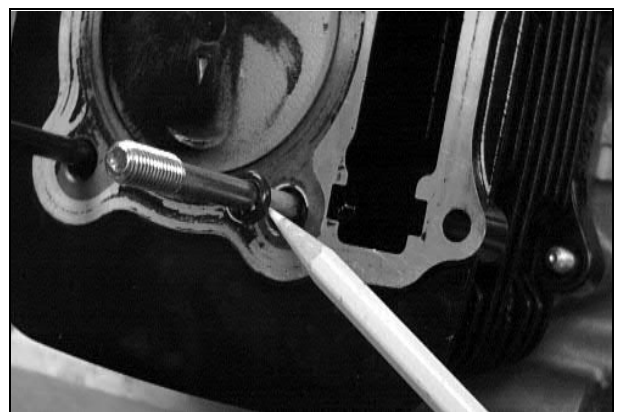

Fig. 48
12. Lift the cylinder off the crankcase taking care not to allow the piston to drop against the crankcase. Account for the gasket and two alignment pins, (Fig. 48).